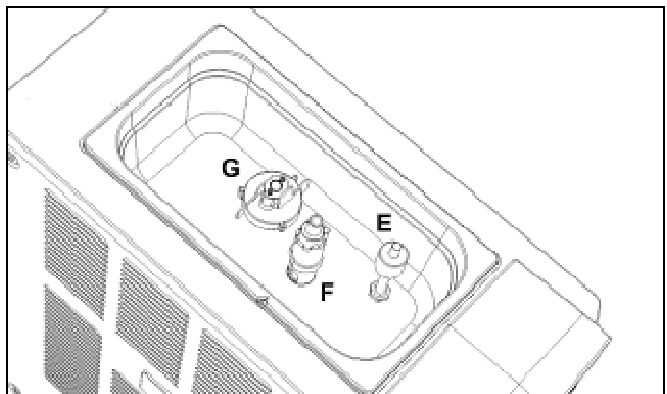

Fig. 21
- **O**nce all the components of the freezing cylinder have been refitted, place all components of the top tank in the same position they occupied before the sanitisation (fig. 21).